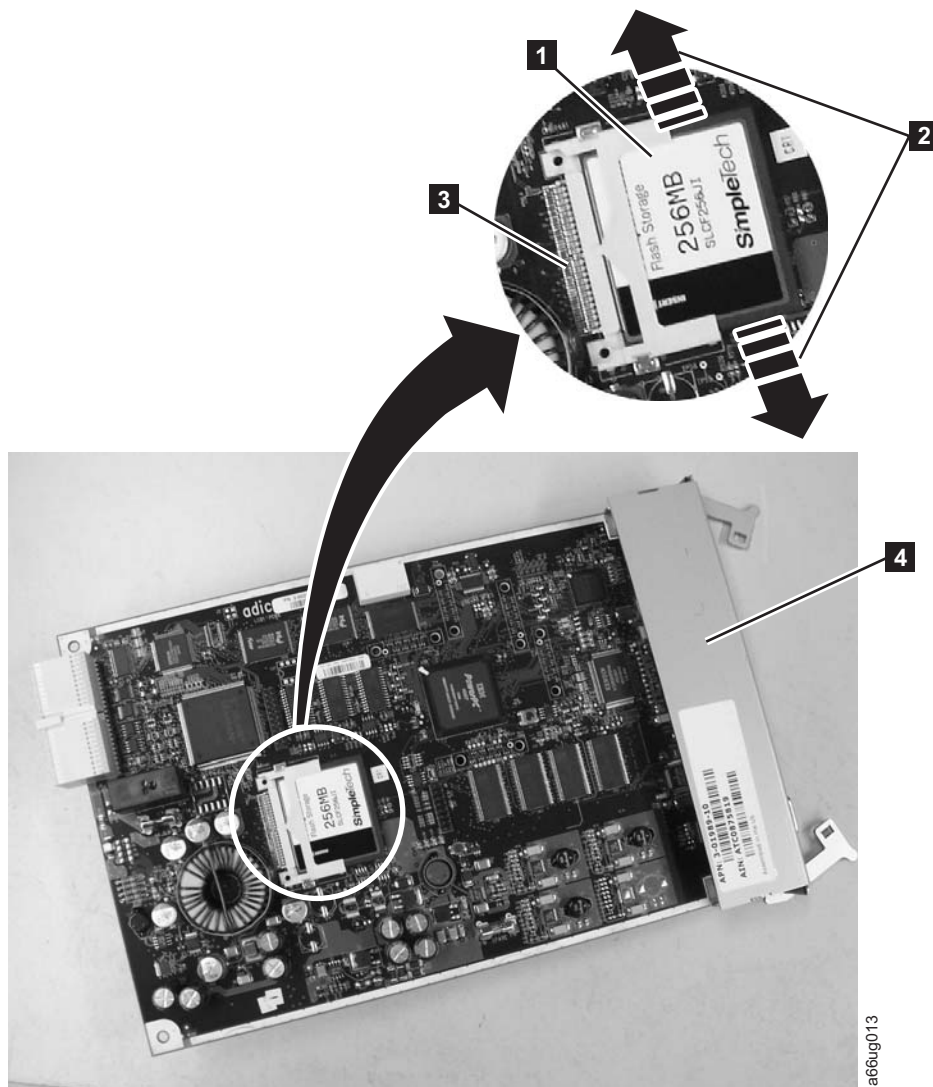

Figure 12-29. Removing the Compact Flash Card from the Library Control Blade
1. Locate the compact flash card component on the LCB board (**1** in Figure 12-29).
2. Without touching any other components on the LCB firmware board, carefully grasp the compact flash card and wiggle it using a gentle, side-to-side motion (**2** in Figure 12-29) until the pins on the compact flash card become
disconnected from the pins on the LCB board (**3** in Figure 12-29 on page 12-31). Then, slowly slide the compact flash card out of the guide slots.
4. If you are installing a new LCB, continue by transferring the old CF to the new LCB. If you are installing a new CF card, continue by installing the new CF card in the old LCB. In either case, install the appropriate compact flash card to the LCB board you are installing with the label up, and pins aligned. Without touching any other components on the LCB board, carefully grasp the compact flash card, and slowly slide it into the guide slots. Continue to push the compact flash card into the guide slots until the pins start to connect. Then hold the LCB board metal connector shield (**4** in Figure 12-29 on page 12-31) with one hand and push the compact flash card into the connector with your other hand. The compact flash card should be firmly seated against the connector (**3** in Figure 12-29 on page 12-31).